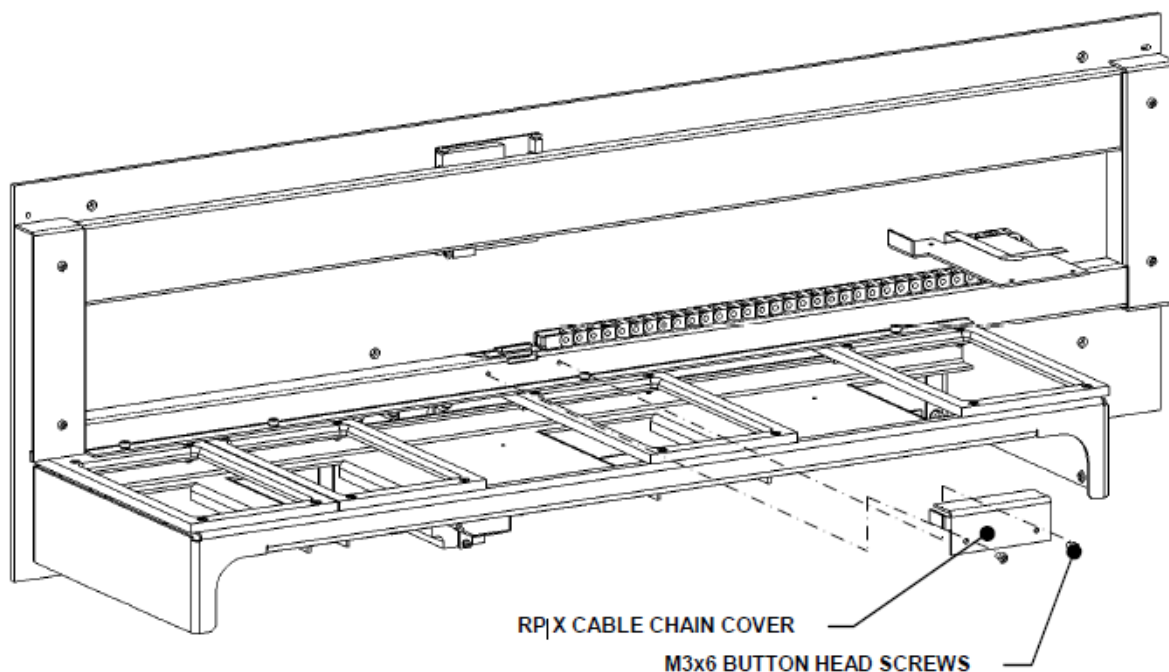

Figure Q-5: Removing the Reagent Pipettor X Drive Cable Chain Cover
1. Remove the Reagent Pipettor X Drive Cable Chain Cover (Figure Q-5) from the Reagent Pipettor X Drive Reagent Pipettor X Drive Belt Cover Lower by removing the two M3x6 Socket Button Head Screws. When replacing the cover, use Loctite 222.